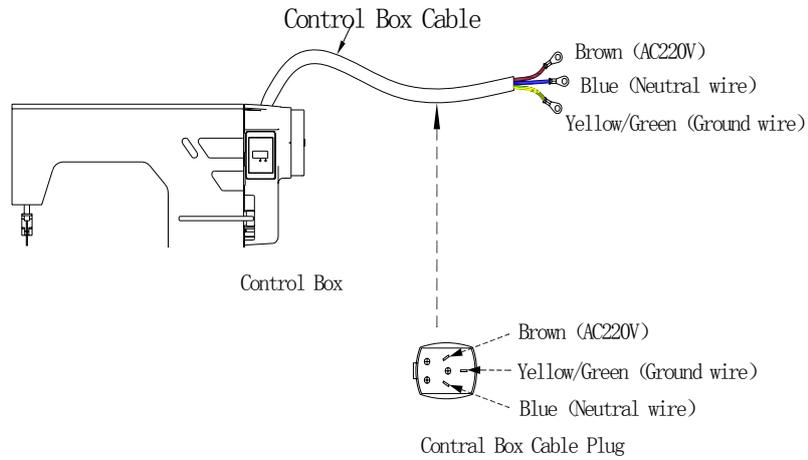
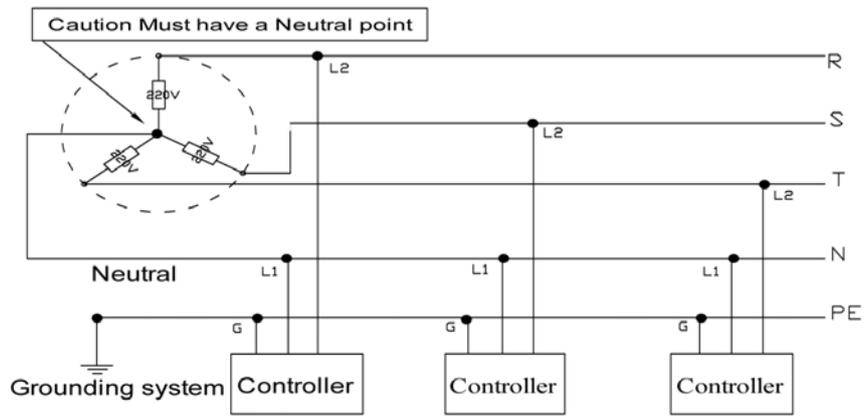

Fig. 3-1
Fig. 3-2
Ground wire (Green/yellow) must be grounded. Use the correct connector and extension wire when connecting ground wire to Earth and secure it tightly (see Fig.3-1).
A 1 Φ /220V power from a 3 Φ /380V Power source Connection (See Fig.3-2):
Step 1: Under idle state, first press ⏻ (1key) and hold on, then press ⏻ (3key) .Two keys are pressed at the same time, digital tube display see figure 3.1, required to enter the password. The default password is 000.
Fig.3.1 password interface
Step 2: Press ⏻ (3key), ⏻ (4key), ⏻ (5key) ,Modify the digital tube display to the correct password, and then press ⏻ (1key) . If the password is correct, enter the parameters modified index, see figure 3.2, or remain in the password input state, see figure 3.1.
Fig.3.2 technical index